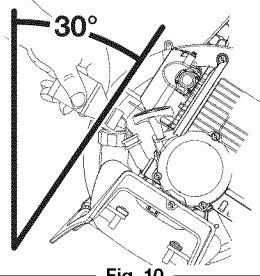

Fig. 10
3. Tilt the unit 30° to the side (Fig. 10).
4. Pour the entire bottle of oil into the oil fill hole (Fig. 10).